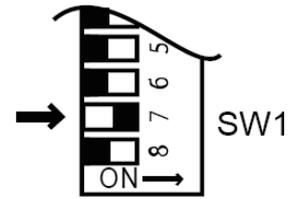

Fig. 3
10. Set the Rinnai to '**Forced Low**' combustion by setting No.7 dip switch of SW1 to 'ON' (Fig. 3).